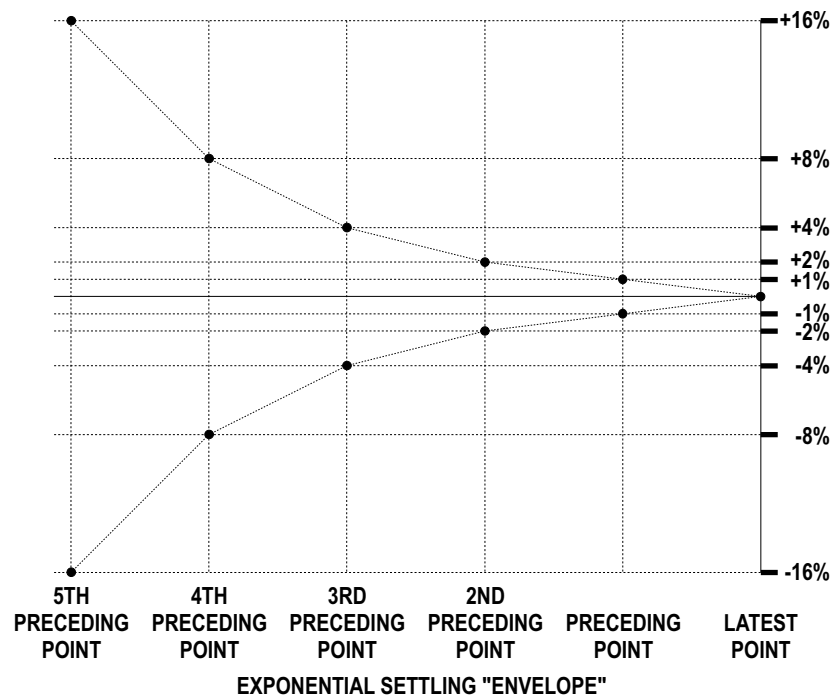

Figure 20-27 Graphic Representation of Exponential Settling Criteria, 1% Tolerance and 6 Points
If the **Exponential** algorithm is selected, the newest reading (N) must agree with the immediately preceding reading (N-1) within the Tolerance value, with the reading before (N-2) that within twice the Tolerance value, with the reading before that (N-3) within four times the Tolerance value, etc. Figure 20-27 shows the “envelope” within which a succession of readings must fit if Tolerance is set to 1%. Exponential is the recommended settling algorithm for most audio applications, since typical device transients tend to die away in an exponential fashion. Exponential thus will usually provide repeatable results to the Tolerance acceptable to the user in the minimum length of time.